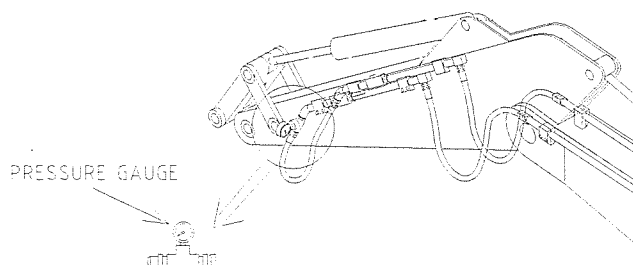

Fig. 5
- (3) Measure the *Back Pressure* as shown in Fig. 5, you should always be under 2.0 MPa (20 bar, 300 psi) of back pressure.